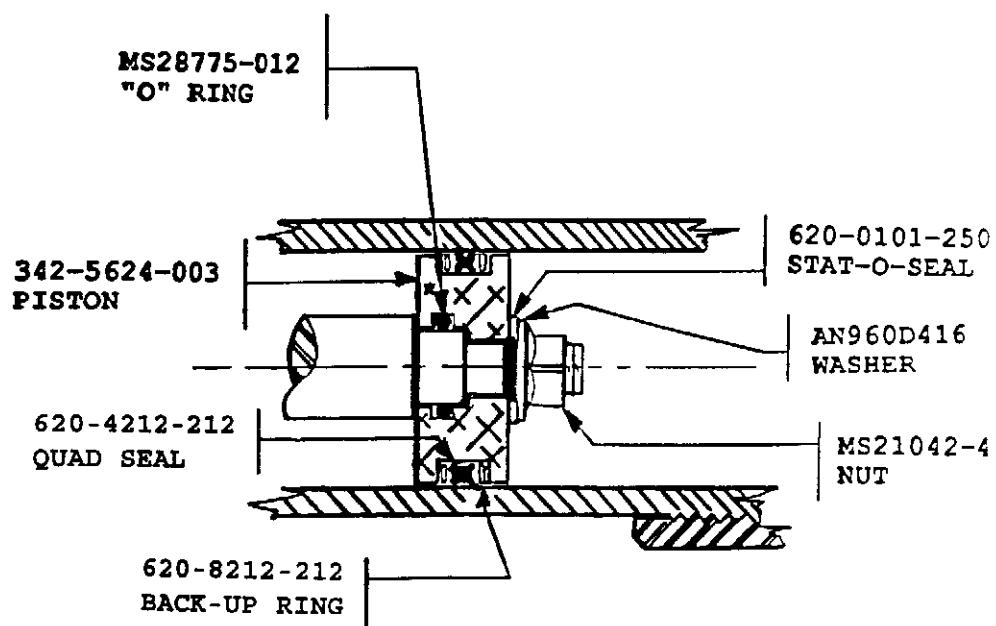

Figure 4: Current-Style Piston Assembly
3) Current-Style Piston Assembly: Hydraulic cylinders shipped since December 1993 feature with an improved piston and seals, as shown in Figure 4. This piston (also 1/2" thick) comes with an external seal groove sized for a "Quad Seal" with back-up rings. Also, an internal "O" ring (P/N MS28775-012) has been added to improve the seal of the piston to actuator rod.
Note Only original-style pistons that are 1/2" long can be upgraded to the replacement piston assembly (342-5624-103) with the new Quad Seal and internal "O" ring installation, as shown in Figure 4. The piston upgrade is available from the Stoddard-Hamilton Order Desk. If a modified piston is being used, we recommend upgrading it with the Quad Seal and two back-up rings only.